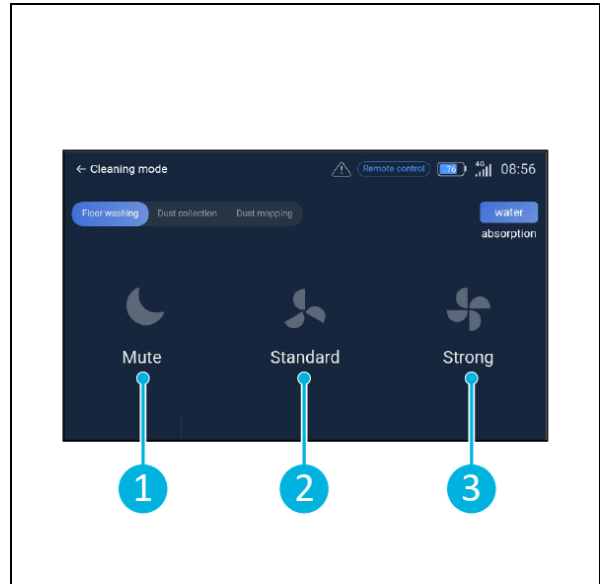

Figure 20
2. Select a cleaning setting. [Mute] (Figure 20, pos. 1), [Standard] (Figure 20, pos. 2) or [Strong] (Figure 20, pos. 3).